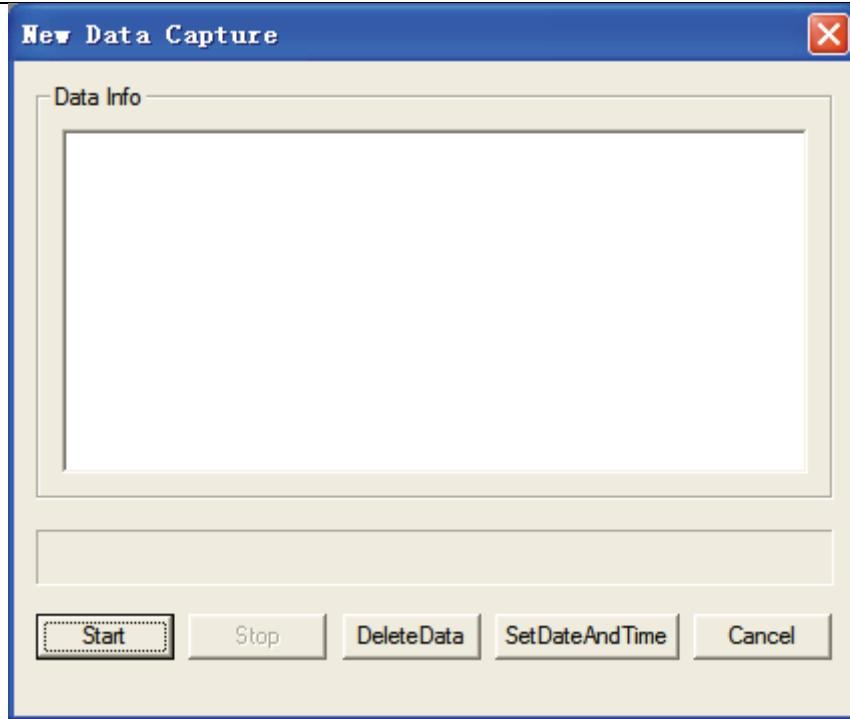
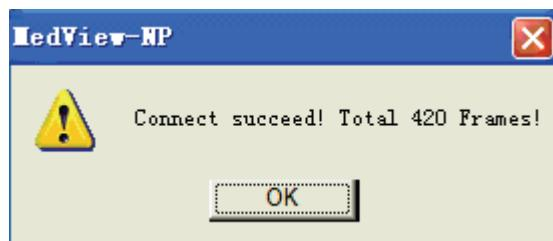
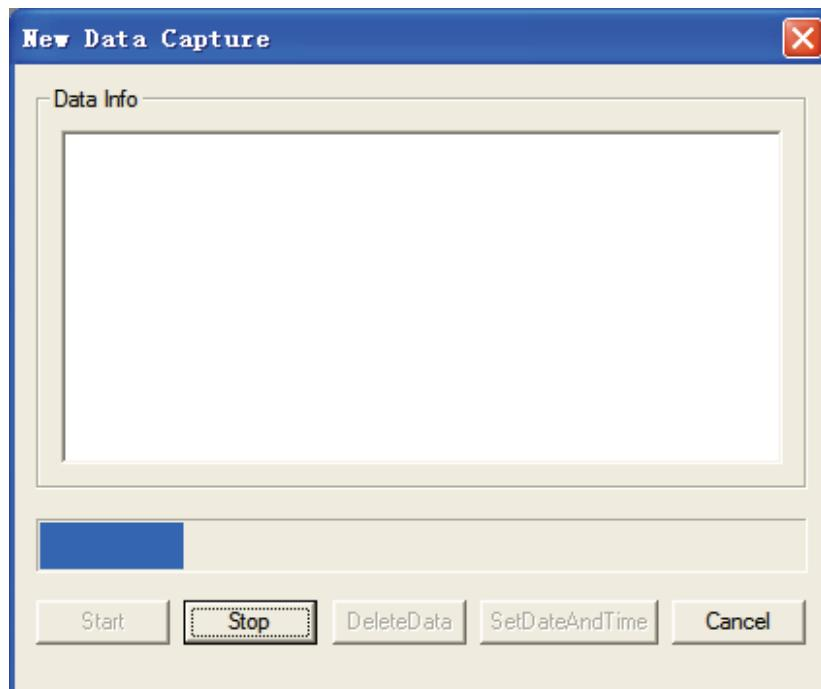

Figure 3-3
Figure 3-4
Figure 3-5
3.1.4 Click “Start” button, in Figure 3-3 then an interface will appear as shown in Figure 3-4, This action aims at the device that cannot upload data automatically, such as MD300I、MD2000B and MD300K3.
3.1.5 When the device that can transmit data is well connected to the computer, you will see the window as shown in Figure 3-4, Click “OK” button, then the data starts transmit. The interface as shown in Figure 3-5.
Definitions of Functional buttons in fig.3-5: